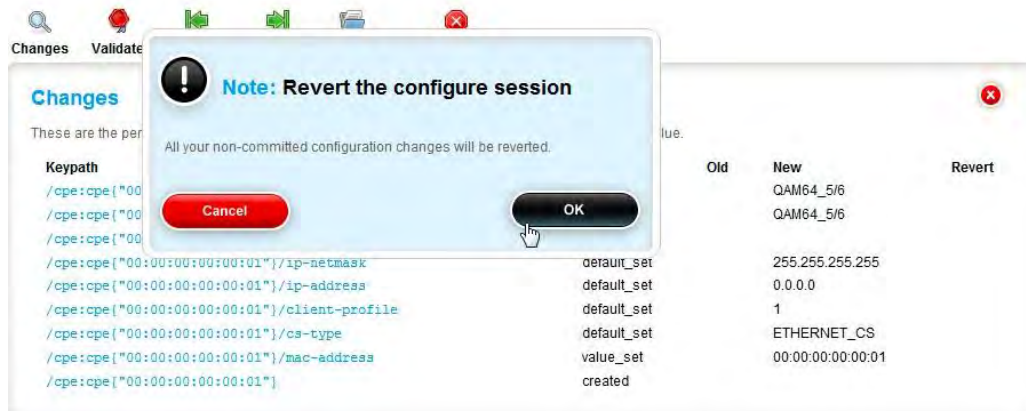

Figure 15 Revert All Configuration Changes
- If changes have been made, then a window appears stating "All your noncommitted configuration changes will be reverted" (Figure 15). The User simply selects the **OK** prompt to proceed and navigate back to the Edit Mode.